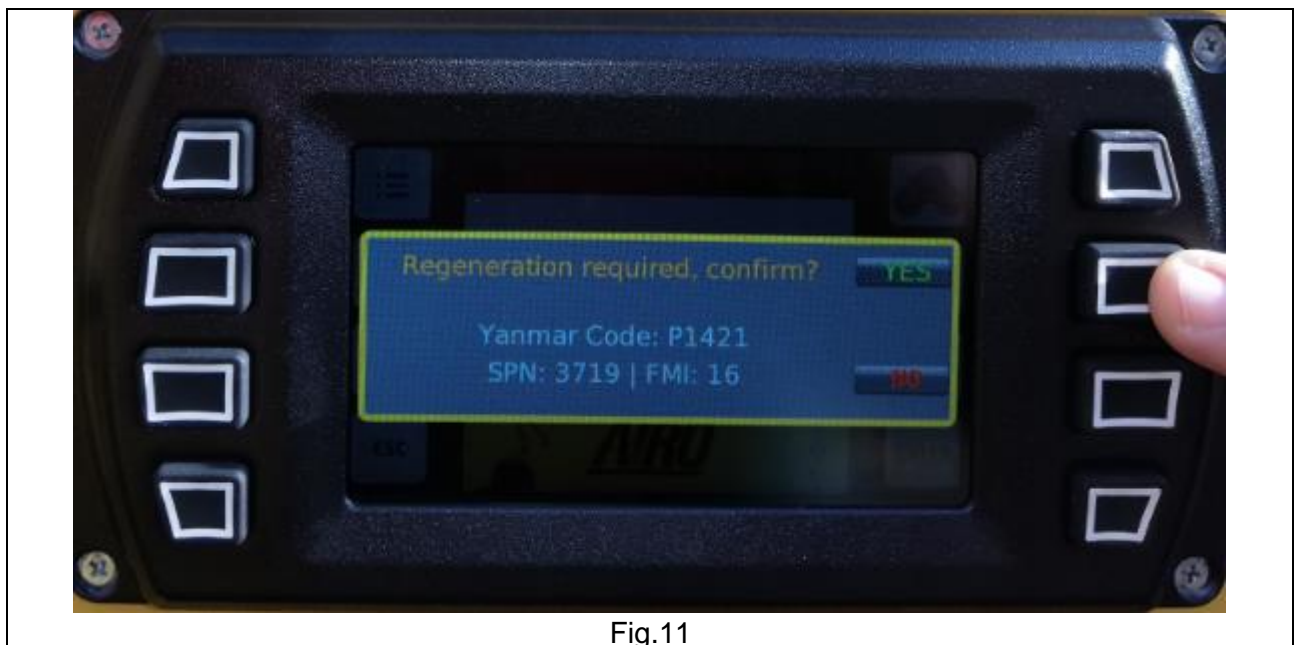

Fig.11
- “**Regeneration required, confirm?**” will appear as shown in Fig. 11 To start the regeneration, select “YES” with button “F” in its correspondence.
Then, it will appear on the display (as shown in Fig. 11) the button "YES", click on it. At regeneration started, it will be shown the following window, where it is possible to see the progress. When regeneration is completed, the engine will gradually return to 2200 RPM and the "STATUS" bar will totally charge up.